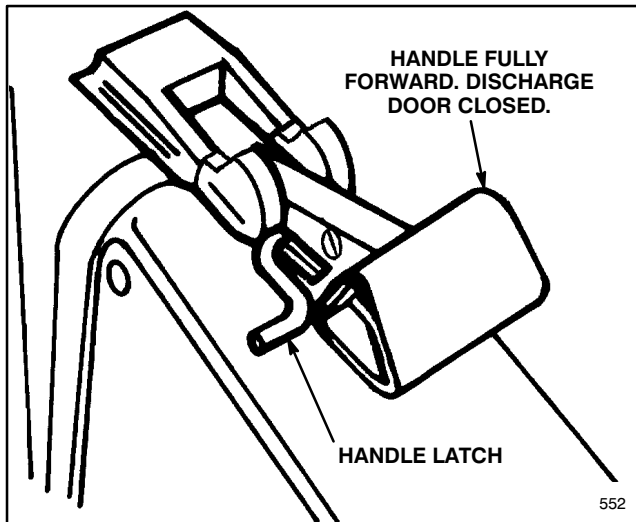

Figure 4
2. Ensure discharge door handle is fully forward (Fig. 4).
3. **INSTALLING BAG** (Fig. 4)—Set rear of bag frame onto lower handle crossbar. Hold front of bag frame and bag door together. Then place opening in bag door against rear of discharge tunnel and slide bag door down.
5. **EMPTYING BAG**—Release control bar and wait for blade to stop. Lift up handle latch (Fig. 4) until it clears the bag notch and move handle forward.